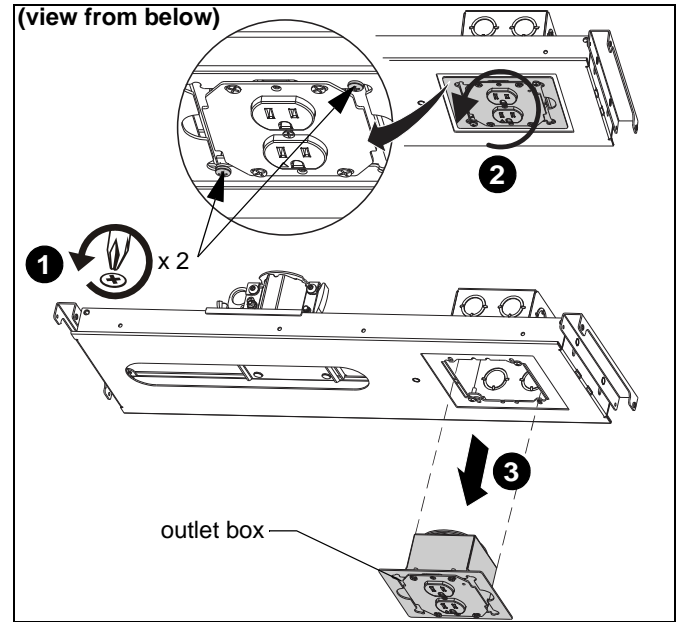

Figure 6
1. Loosen, but do not remove, two Phillips head screws holding outlet box to outer housing. (See Figure 6)
2. Rotate outlet box counter-clockwise until it is free to be removed from housing. (See Figure 6)
3. Remove outlet box from housing. (See Figure 6)